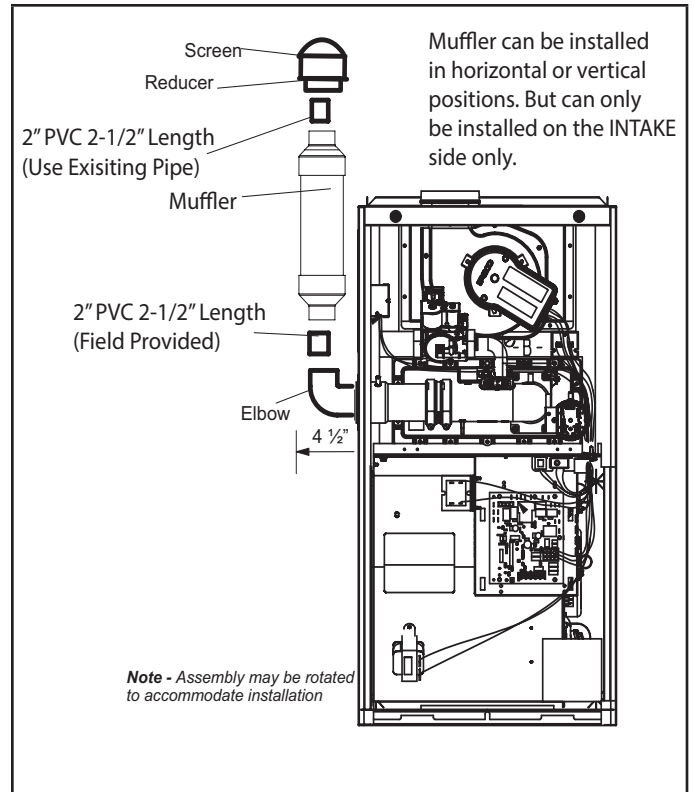

FIGURE 1
- 1 - Install the muffler between the intake elbow and field provided 2" PVC pipe. See figure 1. It can not be installed in the exhaust piping.